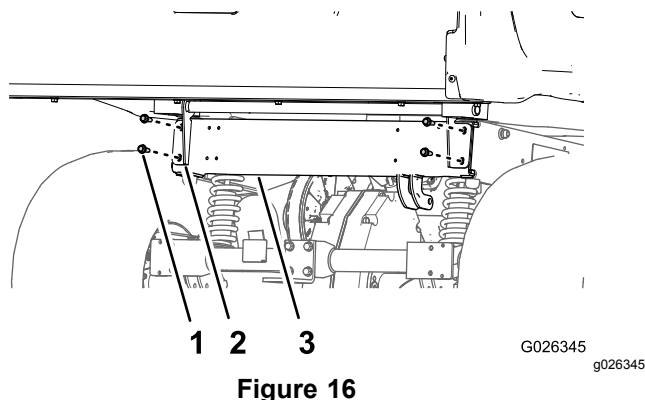

Figure 16
9. Carefully lower the cargo bed until the holes in the pivot brackets align with the mounting holes for the cargo bed in the rear frame channel (Figure 16).
10. Attach the pivot brackets to the rear frame channel with the 4 flanged-head bolts (3/8 x 1 inch) that you removed in step 8; refer to Figure 16.